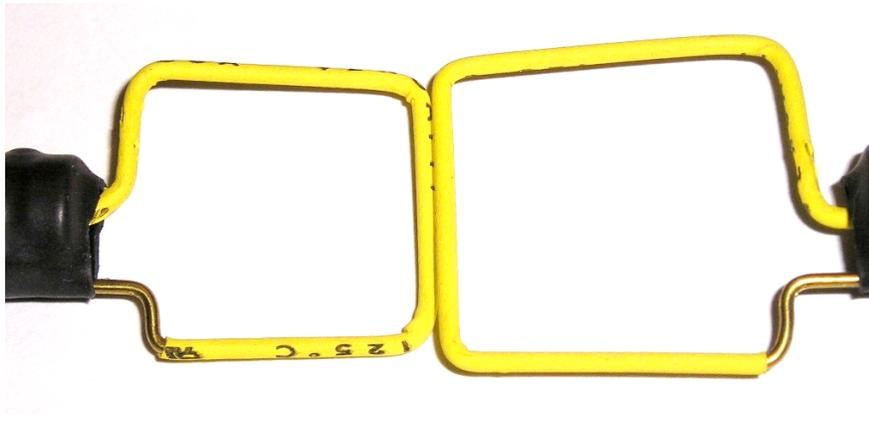
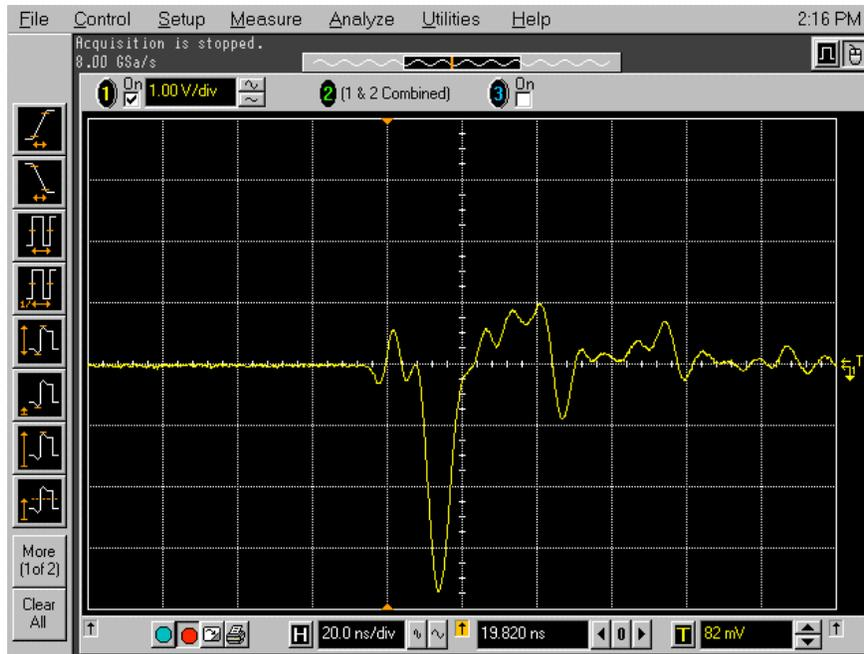

Figure 10, Measuring loop induction into a second loop
Figure 11, Induced voltage in second loop using an EFT generator to feed the first loop.
One should be able to easily measure this result directly. A way to do this is shown in Figure 10. Two square loops are held adjacent with one connected to an EFT pulse generator and the other to the 50 Ω input of an oscilloscope (both using good quality 50 Ω coax cable). The result can be seen in Figure 11 showing a peak voltage of about 4 Volts for a 250 Volt open circuit EFT generator setting.
Figure 11 looks very much like the di/dt pulse in Figure 9, although reversed in polarity because of the relative loop orientations. The single polarity induced voltage pulse is important to the troubleshooting method to be described.
1. Using two loops, as in Figure 10, set the pulse generator to give an induced voltage of around 4 Volts peak. This will require a setting of the TG-EFT generator of around 100 Volts and a setting of about 250 Volts on an EFT generator.